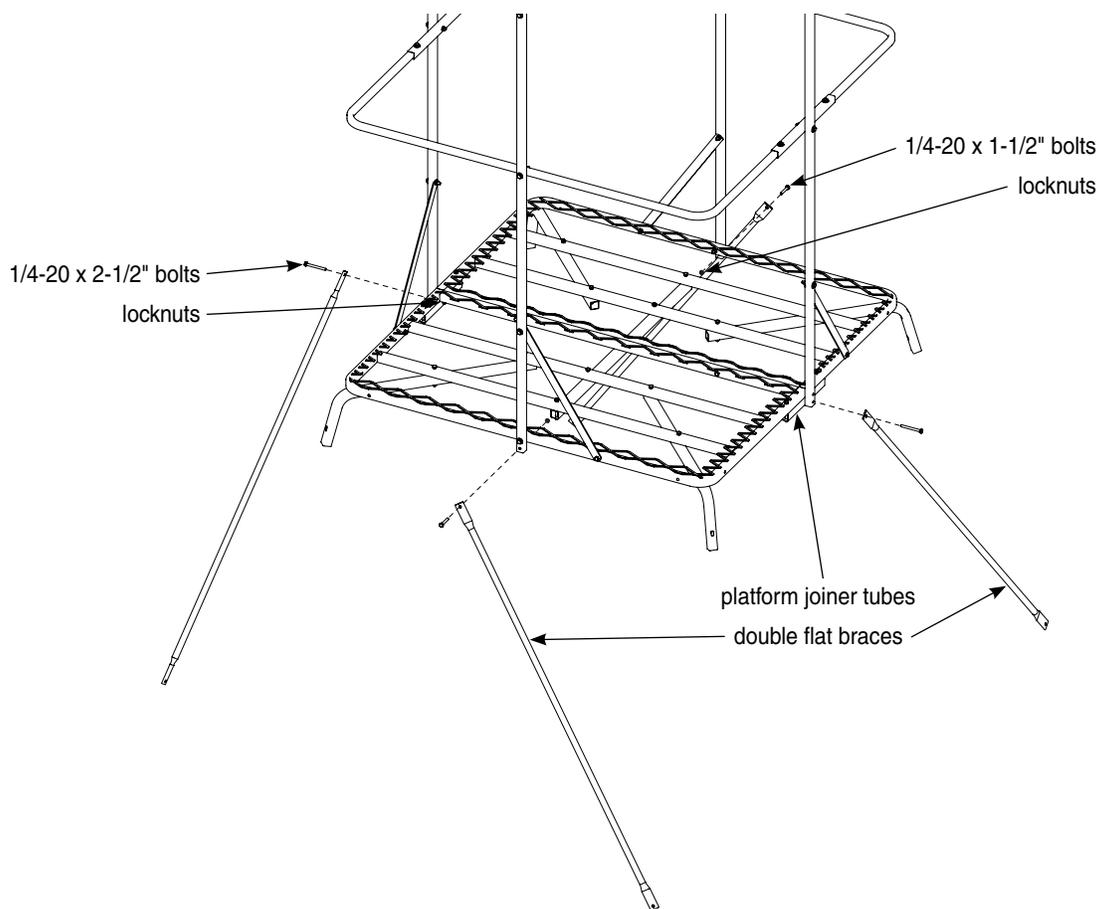

FIGURE 11
17. a. Attach (2) double flat braces (TP135) to the bottom hole of each blind upright (TWR18) that is already attached to the long side of each platform using (2) provided 1/4-20 x 1-1/2" bolts and locknuts. **SEE FIGURE 11.**
- b. Attach remaining (2) double flat braces to blind uprights/platform joiner tubes using (2) provided 1/4-20 x 2-1/2" bolts and locknuts. **SEE FIGURE 11.**